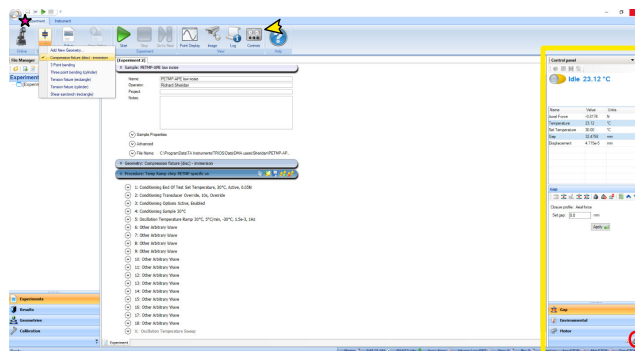
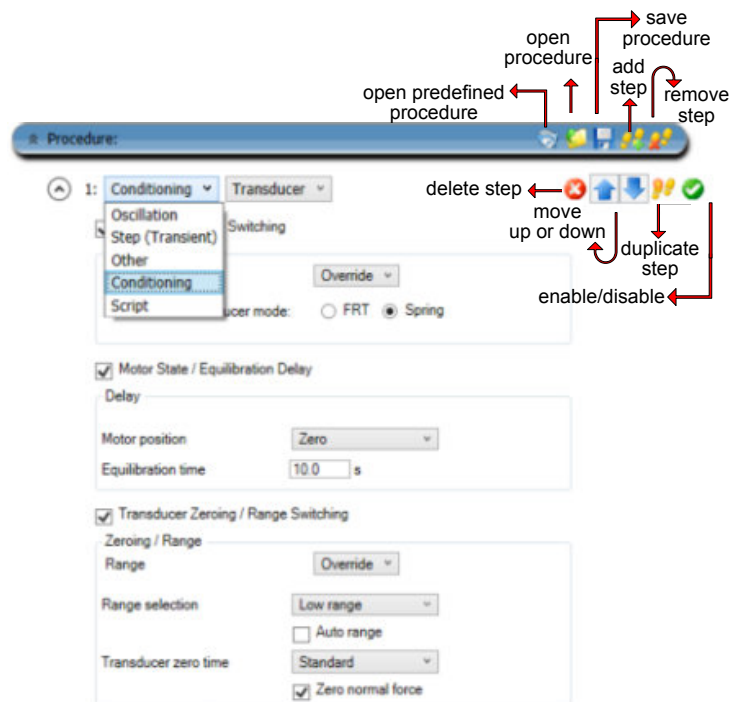

Figure 4: Control panel. Values of relevant parameters, such as **Temperature**, **Axial Force** (in [N]), etc, are found at the upper part of the panel
Figure 7: Procedure tab functions.
2. Tare the transducer using the **Transducer Control panel** (fig.4 and fig.6).
4. in **Control Panel** go to **Gap** window (fig. 4, functions descriptions in fig 6). Click the **ZeroFixture** button. The procedure takes around 2 minutes to be completed.
- In **Control Panel**(fig. 4, red circle)
4. In **Procedure**, open a previous procedure or create a new one (fig.7).
1. Save your procedure (fig.7) and data. Data can be exported to TXT or Excell, click in the **TA** button at the top left of the screen (fig.4, pink star).